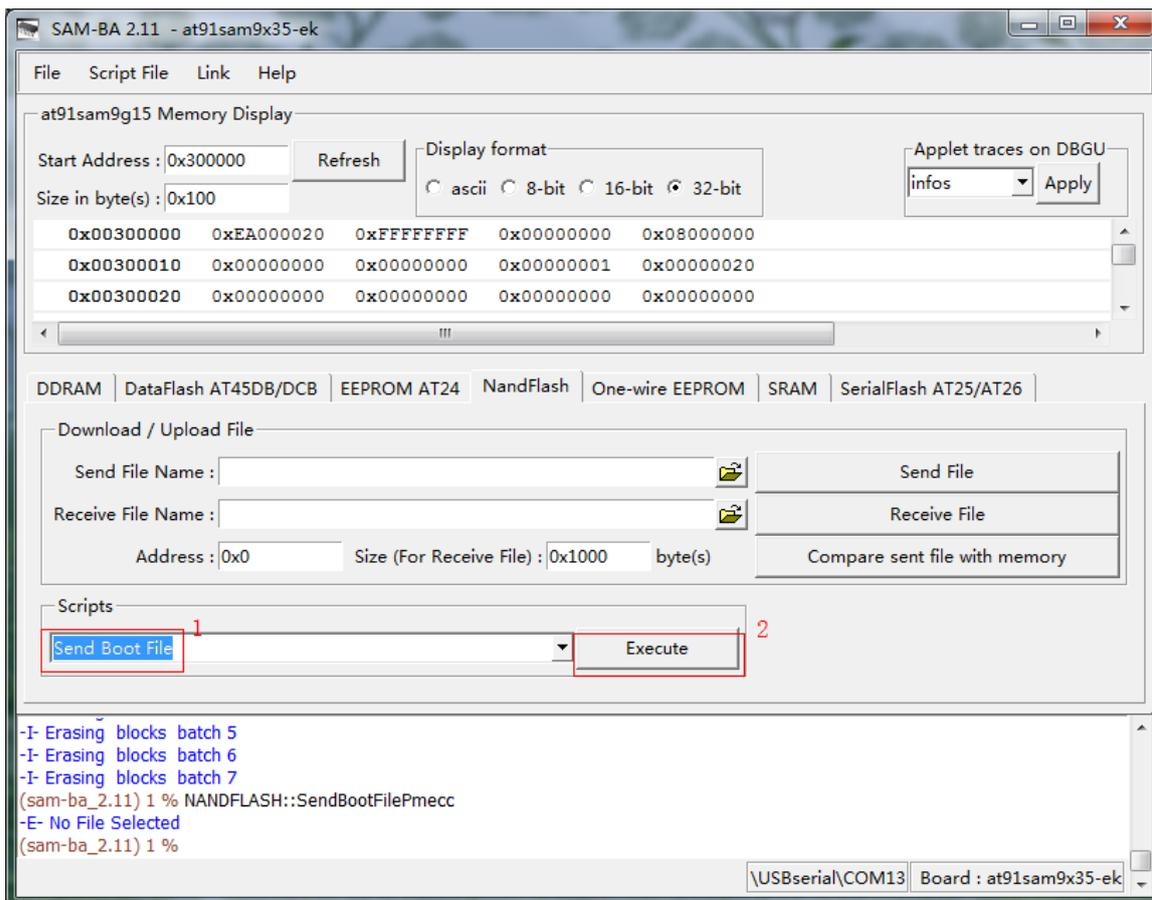

Figure 4-9
(3) Download at91sam9x5ek-nandflashboot-3.1.bin. Refer to figure 4-9 and 4-10: